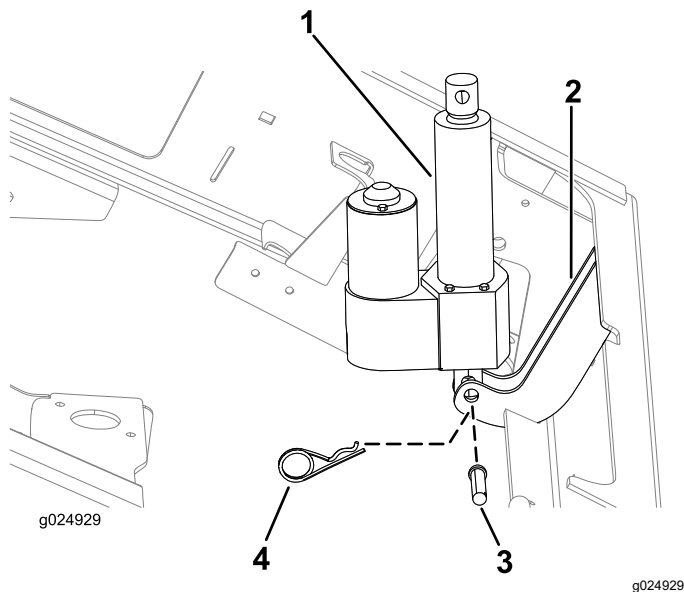

Figure 9
1. Align the hole in the lower-mount point for the lift actuator with the holes in the chassis-mount brackets (Figure 9).
2. Secure the lift actuator to the chassis-mount brackets with the clevis pin (2-1/4 inches) and hairpin (Figure 9).